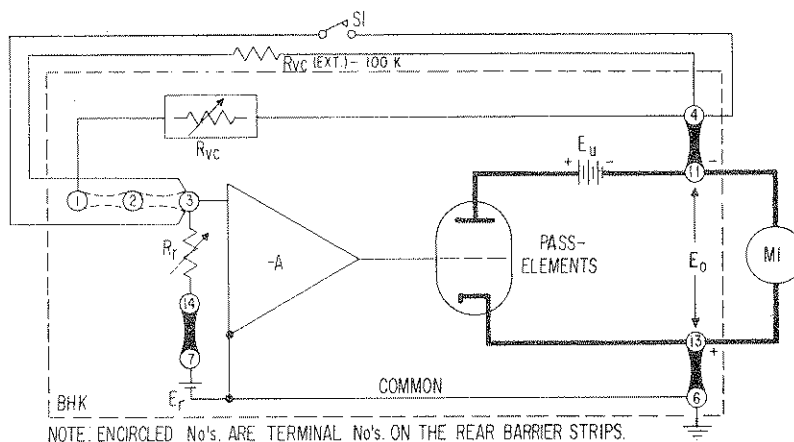

FIG. 3-9 SETUP FOR PRECISION PROGRAMMING RATIO ADJUSTMENT, VOLTAGE MODE.
- b) *With the line power removed* from the power supply, disconnect links on the rear barrier-strip TB301 between terminals (1)–(2)–(3). (The double link is used for insulating purposes since the voltage across (1) and (3) may equal the maximum output voltage.)
- c) Connect external components as shown in FIG. 3-9. Turn line power "on." With S1 open and R_{VC} , for example, 100 K ohms, approximately 100 volts output voltage will be read on M1.